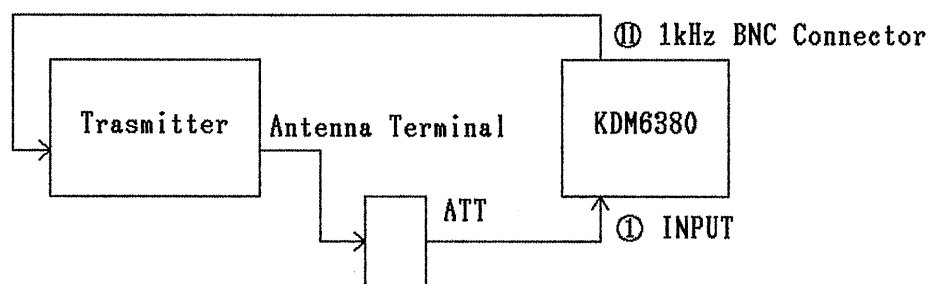

Fig. 4-10
1. Make connections as shown in Fig. 4-10.